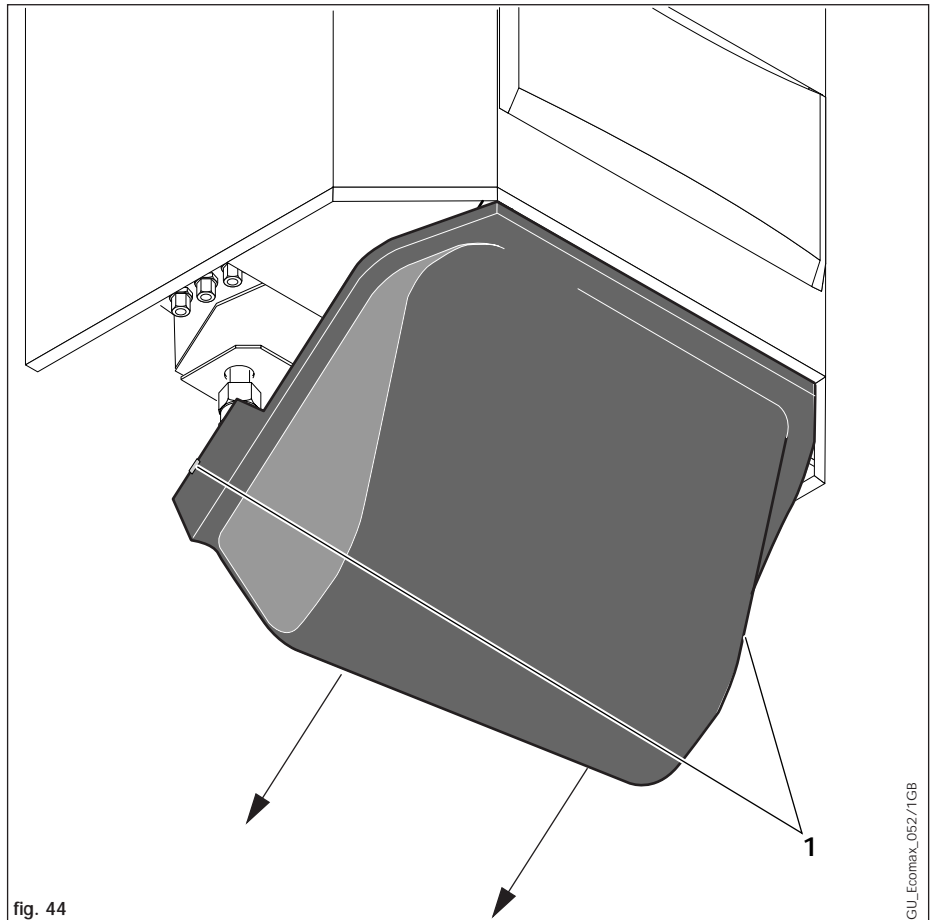

fig. 44
- Slide the front edge of the bottom cover into the lip at the front bottom edge of the appliance chassis (fig. 44)
- Carefully push the rear of the bottom cover upwards until the spring retaining clips (1, fig. 44) engage at the side of the appliance.